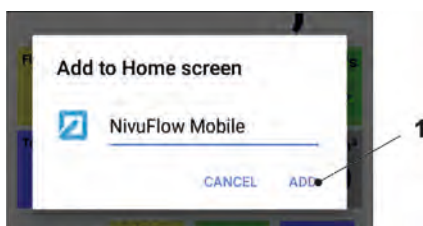

Fig. 31-8 Confirm adding
9. Use “Add” to confirm (Fig. 31-8 no. 1).